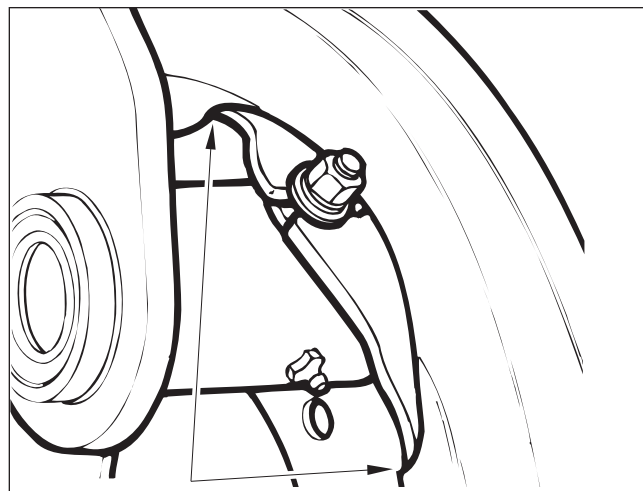

Figure 49. Designed Interference Fit
**SPECIAL NOTE:** For EB/ES-150-4L brake, a designed interference fit at upper dustshield to air chamber bracket area may cause the need to deform upper dustshield by hand slightly to allow upper dustshield half to align properly with the lower half. Refer to Figure 49.